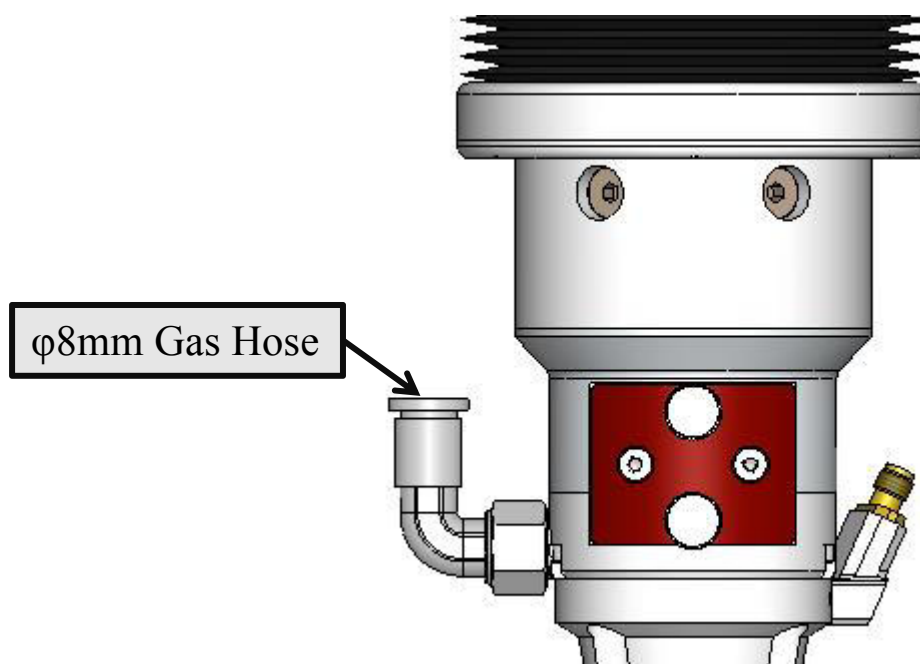

Figure 1.7
- ① The inlet is connected to 8mm gas hose, as shown in the Figure 1.7, and is used to connect cutting gas, with inlet pressure <2.5 Mpa.